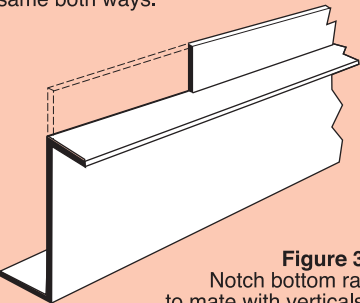

Figure 3. Notch bottom rail to mate with verticals.
7. Using a skill saw or snips, notch the aluminum bottom rail for mating with the vertical rails, as shown in Figure 3. Attach the aluminum bottom rail to the 2" x 6" bottom girt with nails driven up through the bottom and above the stiffener.